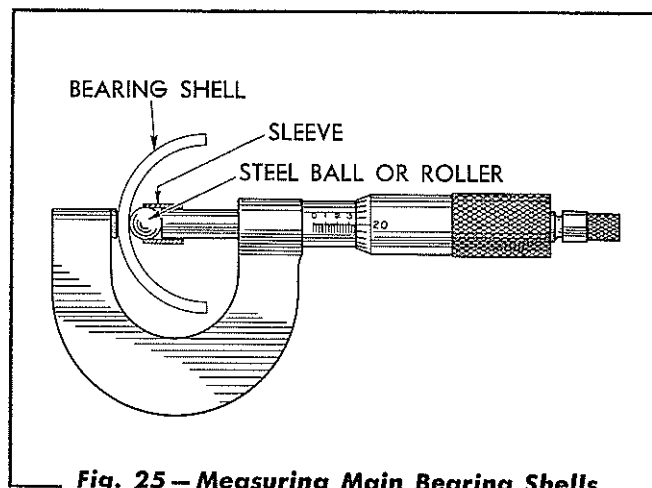
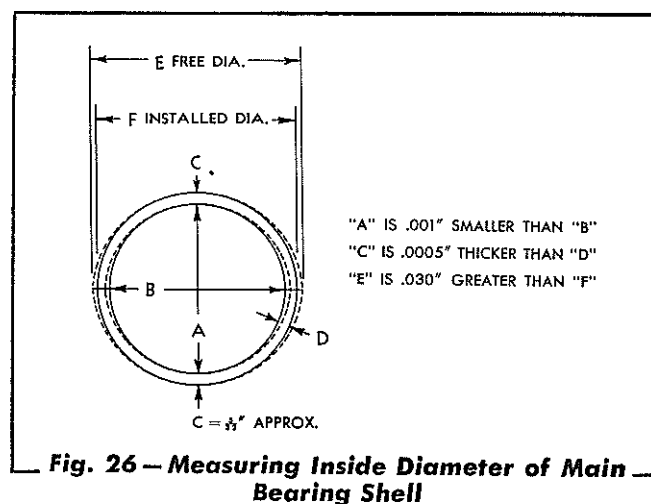

Fig. 25 — Measuring Main Bearing Shells
Fig. 26 — Measuring Inside Diameter of Main Bearing Shell
bearing shells must be installed when this clearance exceeds .006". The amount of wear on the bearing shells may be determined by measuring each shell with micrometers as shown in Fig. 25. New shells, measured at the point shown (C, in Fig. 26) are .155" thick, and any variation from .155" will show the amount of wear on the particular shell being measured. Those less than .153" are worn beyond the allowable limits and must be replaced.
3. As will be seen from Fig. 26, the bearing shells (when in place) are .001" larger in diameter at the parting line than they are 90° from the parting line. The 2 shells do not form a true circle when not installed and, when measured for inside diameter, they should be installed in the cylinder block and the caps bolted tightly in place (crankshaft removed). The 2 halves of the shells have a squeeze fit in the seat and cap, and must be tight when the cap is drawn down.